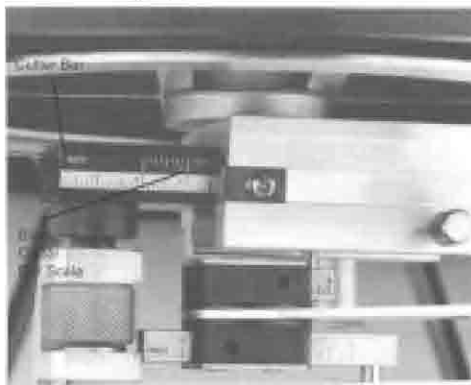

Figure 14
2. Set the **Cutter Bar** for the width of the oval or circle using the **black Cutter Bar Scale**. (This scale only reads up to 3" [76mm].) See Figure 14.